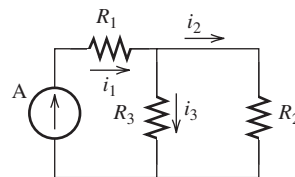

FIGURE P2.68 Circuit diagram for PSpice Problem 2.68.
2.68 (A) In Figure P2.68, the current source A is 10 A, and resistors R_1 , R_2 , and R_3 are equal to 4 Ω , 3 Ω , and 2 Ω , respectively. Use PSpice and find the current i_2 and i_3 . In addition, assume we replace the current source with a voltage source. Assuming i_1 , i_2 , and i_3 remain unchanged, find the magnitude of the voltage source.